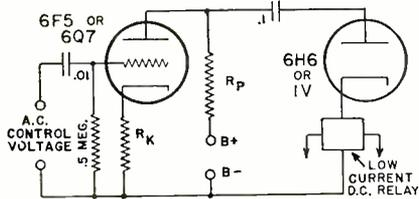

Fig. 2.
Figure 2 shows the details of construction and connections at the center of the half-wave radiator. The insulator (3) is again a piece of 1" *Polystyrene* rod, drilled and turned down as shown in the cut-away sectional view. This is force-fitted into the top of the lower ¼-wave radiator sleeve (8), and into its upper part is force-fitted and cemented with coil dope a piece of brass tubing (2), the bottom of which is closed by soldering on a metal disc through which has been drilled a hole of sufficient size to pass the inner conductor (6) of the feed line. This serves as the socket into which the removable top ¼-wave radiator (1) fits tightly.
In assembling the antenna the insulator of Figure 2, after being prepared as described above, is slipped over the end of the cable with the center conductor of the latter extending up into
Figure 2 shows a similar circuit adapted for a.c. signal operation. The triode may be any convenient tube,